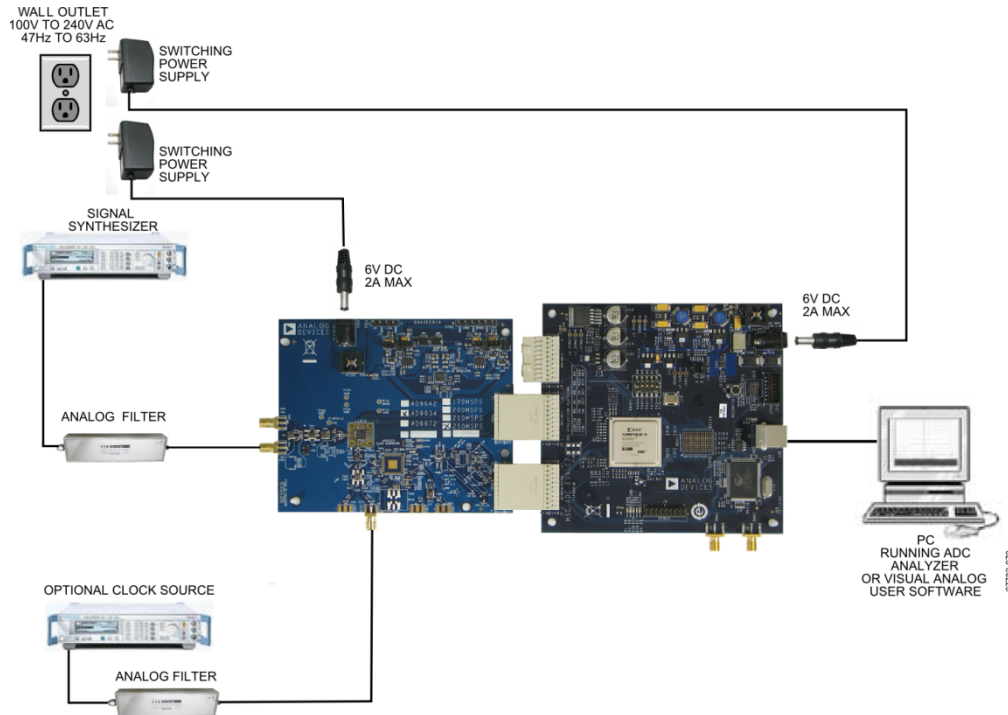

Figure 1: AD6672 Evaluation Board with HSC-ADC_EVALCZ Data Capture Board
1. Connect the AD6672 evaluation board and the HSC-ADC-EVALCZ board together as shown in Figure 1.
9. Next open the SPI Controller software. If prompted for a configuration file, select the configuration file titled AD6672spiR03.cfg. If not, check the title bar of the window to see which configuration is loaded. If necessary, choose "Cfg Open" from the "File" menu and select one of the configuration files named above. Note that the CHIP ID(1) field may be filled whether the correct SPI Controller configuration file is loaded or not.
- Set the DCO Clk Delay Enable checkbox in the FLEXOUTPUT DELAY(17) panel on the ADCBase0 tab as shown below. In addition, set the DCO Clk Delay register to the '600ps additional delay on DCO pin'. Also set the O/P Port DCO Clk Invert checkbox in the OUTPUT PHASE (16) panel. These settings align the output timing with the input timing on the capture FPGA.